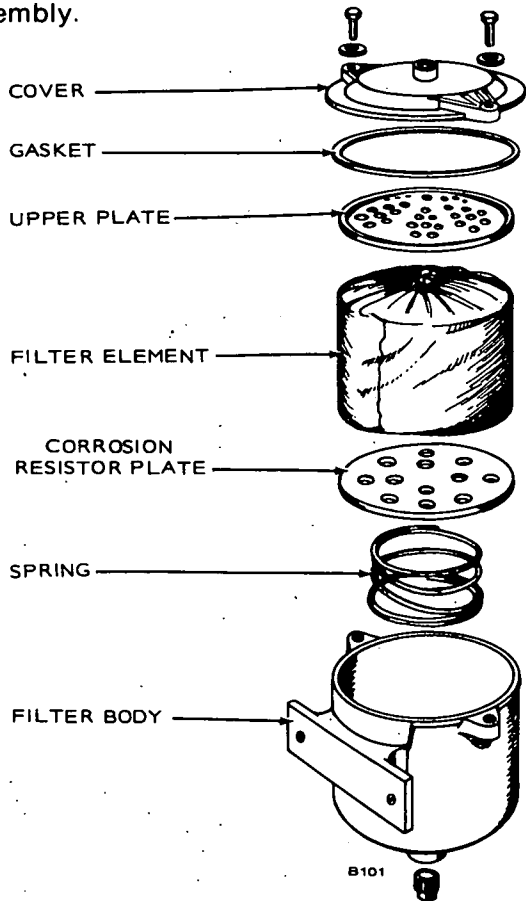

FIGURE 21. CHANGING CORROSION RESISTOR ELEMENT AND PLATE
The PAF formula elements (borate) can be used with most permanent antifreezes; it is not recommended for use with plain water. It is necessary to drain and flush the system thoroughly when changing from one element formula to the other if a non-compatible antifreeze is in use. Refer to Figure 21 for disassembly.
4. Remove capscrews attaching filter cover to body and remove cover, Figure 21.